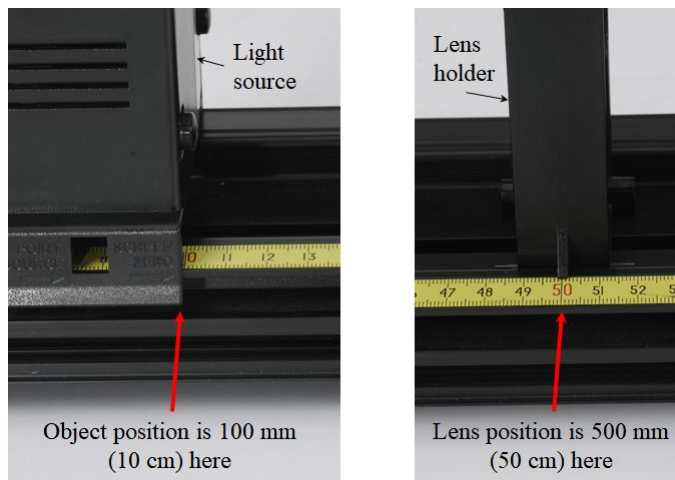

Figure 4: Example Object Distance of 400 mm
- Note the scale on the optics track and the marks at the base of the light source and lens holder. These marks will be used to determine object and image distances. For example, in Figure 4, the object distance is 400 mm, which is the difference between the object position (100 mm) and the lens position (500 mm).